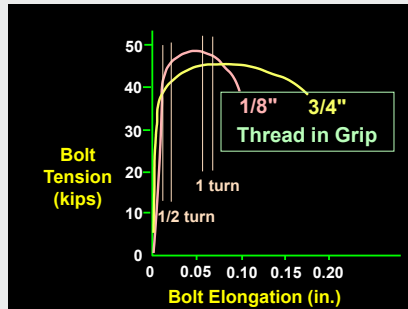

Fig. 5. Reduced Ductility for One Thread in Grip
**The unengaged threads are critical during installation. A fastener must be able to absorb a certain amount of torsion during assembly. The more threads there are within the joint (grip), the better the threads will be able to absorb these loads with less stress. (Fig. 5). Therefore, a fastener with very few unengaged threads is subject to failure if the assembly speed of the power wrench is too fast or the torque is at the upper limit.**